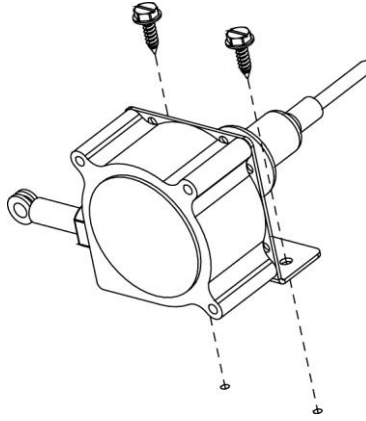

Figure 6: Vertical Sash Sensor Mounting
1. Mount the Vertical Sash Sensor to the fume hood frame using two screws (not provided). (Figure 6).